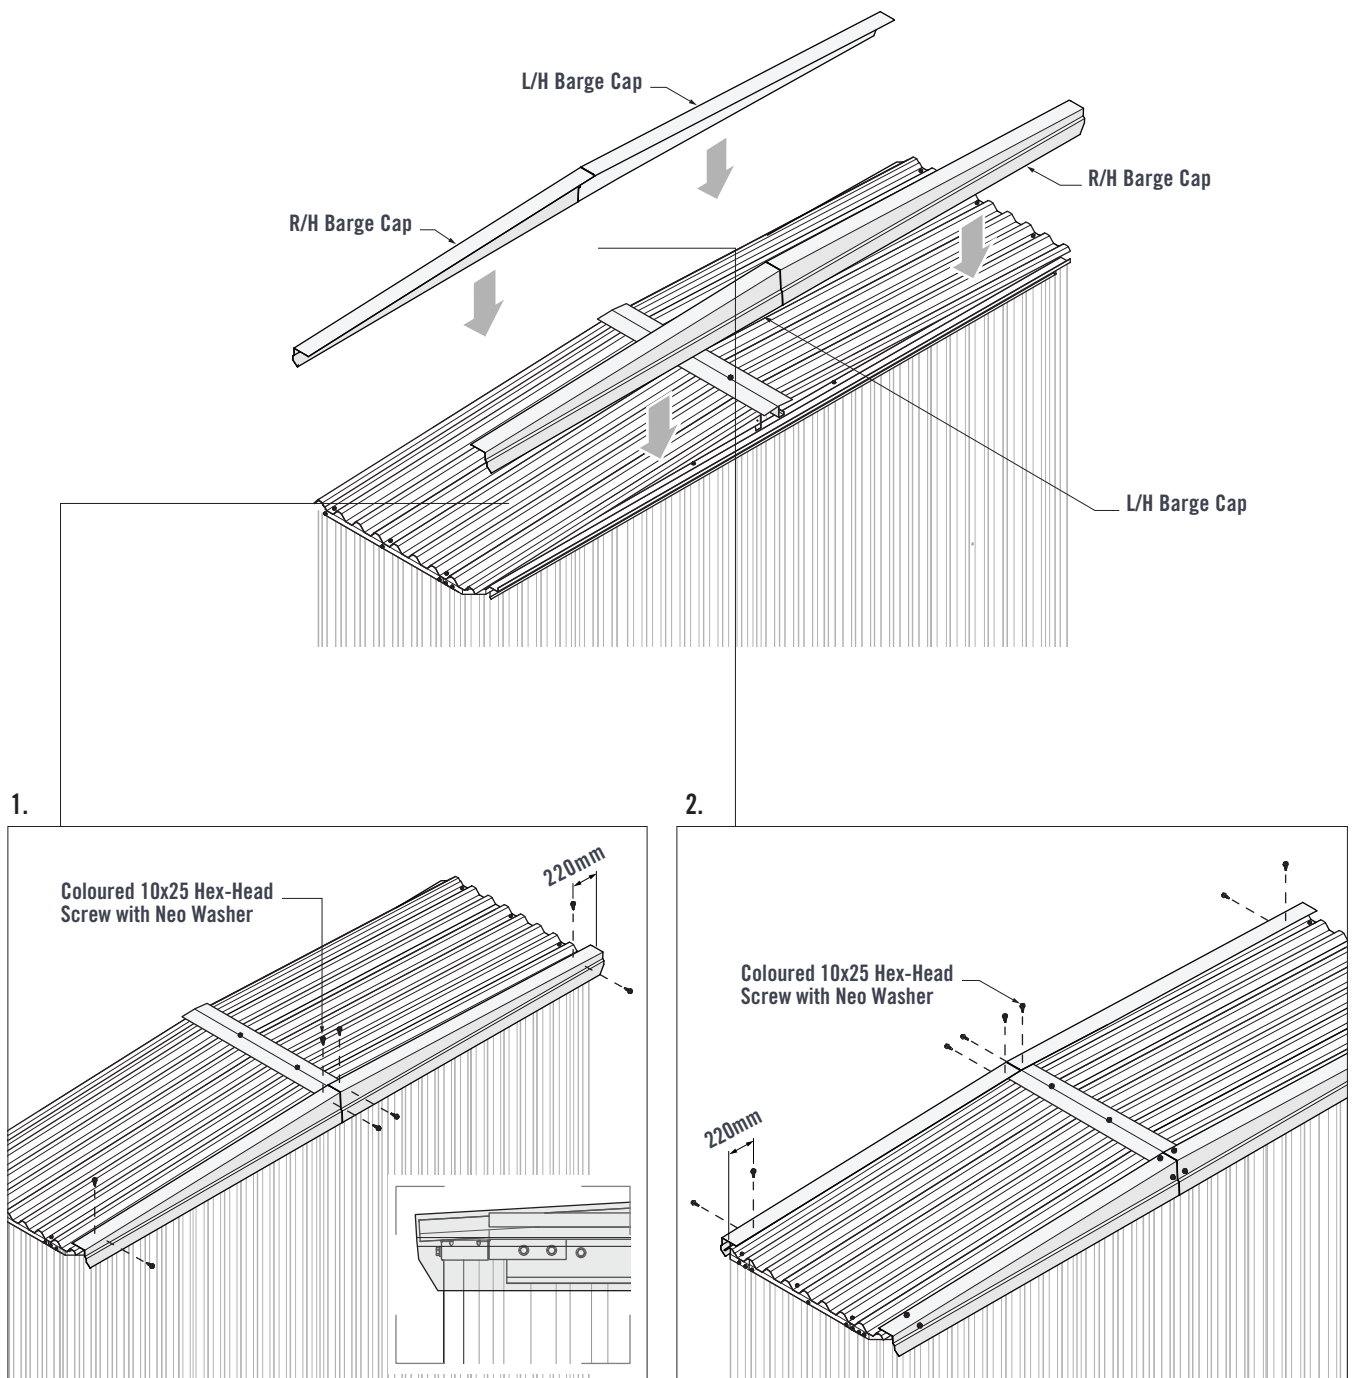

FIGURE 8.11
1. Place the L/H Barge Cap over the Roof Sheet at the front of the shed. The front face of the Barge Cap should fit up against the Barge Support. The ends of the Barge Cap should align with the end of the roof sheet (Figure 8.11).
Fasten two coloured 10x25 Hex-Head Screws with Neo Washers through the front face of the Barge Cap into the Barge Support. Fasten two coloured 10x25 Hex-Head Screws with Neo Washers through the top of the Barge Cap and into the crests of the Roof Sheets. Install the R/H Barge Cap in the same manner on the front right side of the shed (Figure 8.11).
2. Place the remaining L/H and R/H Barge Caps over the Roof sheets at the rear of the shed. Align the ends of each Barge Cap with the ends of the Roof Sheets (Figure 8.11).
Fasten two coloured 10x25 Hex-Head Screws with Neo Washers through the front face of each Barge Cap into the rear Wall Channel. Fasten two coloured 10x25 Hex-Head Screws with Neo Washers through the top of each Barge Cap and into the crests of the Roof Sheet (Figure 8.11).